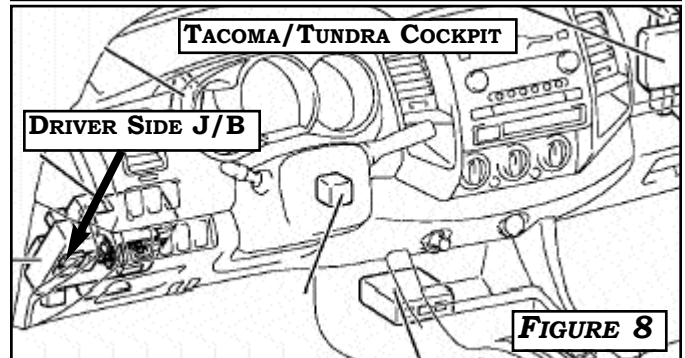
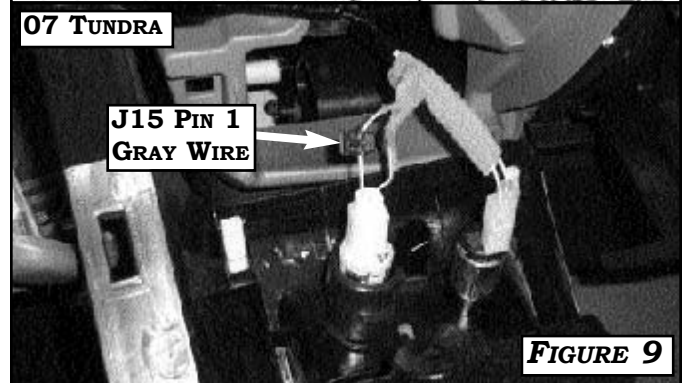

FIGURE 8
FIGURE 9
7) LOCATE DRIVER SIDE J/B AS ILLUSTRATED IN FIGURE 8. REMOVE ASH TRAY/PANEL IN 07 TUNDRA TO ACCESS CONNECTOR J15. CONNECT Lt. BLUE POWER WIRE FROM RF HARNESS TO J15 PIN 1. FIGURE 9.